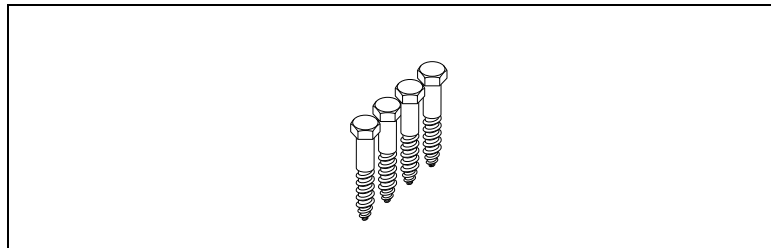

Figure 5 Screws to attach mounting bracket to building
- After the holes are drilled into the building, drive the screws (illustrated in Figure 5) through the holes on the mounting bracket and into the building.
Figure 5 illustrates the screws to use to attach the mounting bracket to the building.